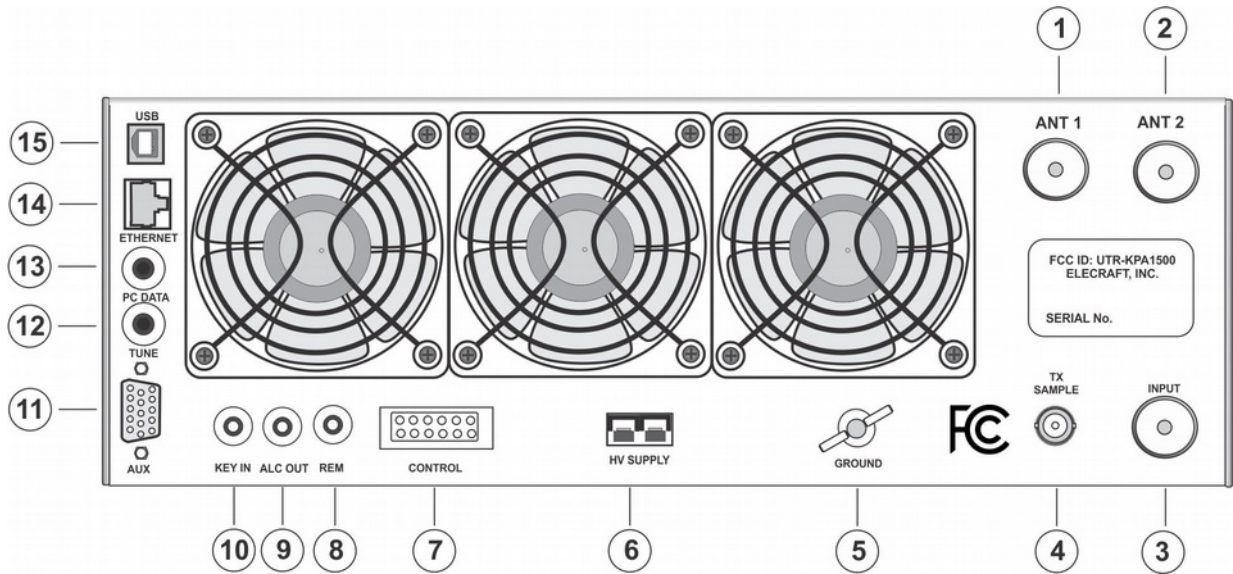

Figure 1. KPA1500 Rear Panel
The KPA1500 rear panel is shown in Figure 1. The connectors and controls are described following the figure.
Plug the PowerPole connector into the HV Supply connector (⑥) on the RF Deck rear panel (see Figure 1) and the corresponding connector on the Power Supply. Observe the polarity; match the colors on the plug with the connectors
2. Enable the power supply by pressing the rear panel rocker switch (Figure 1, ③) to the On (I) position.